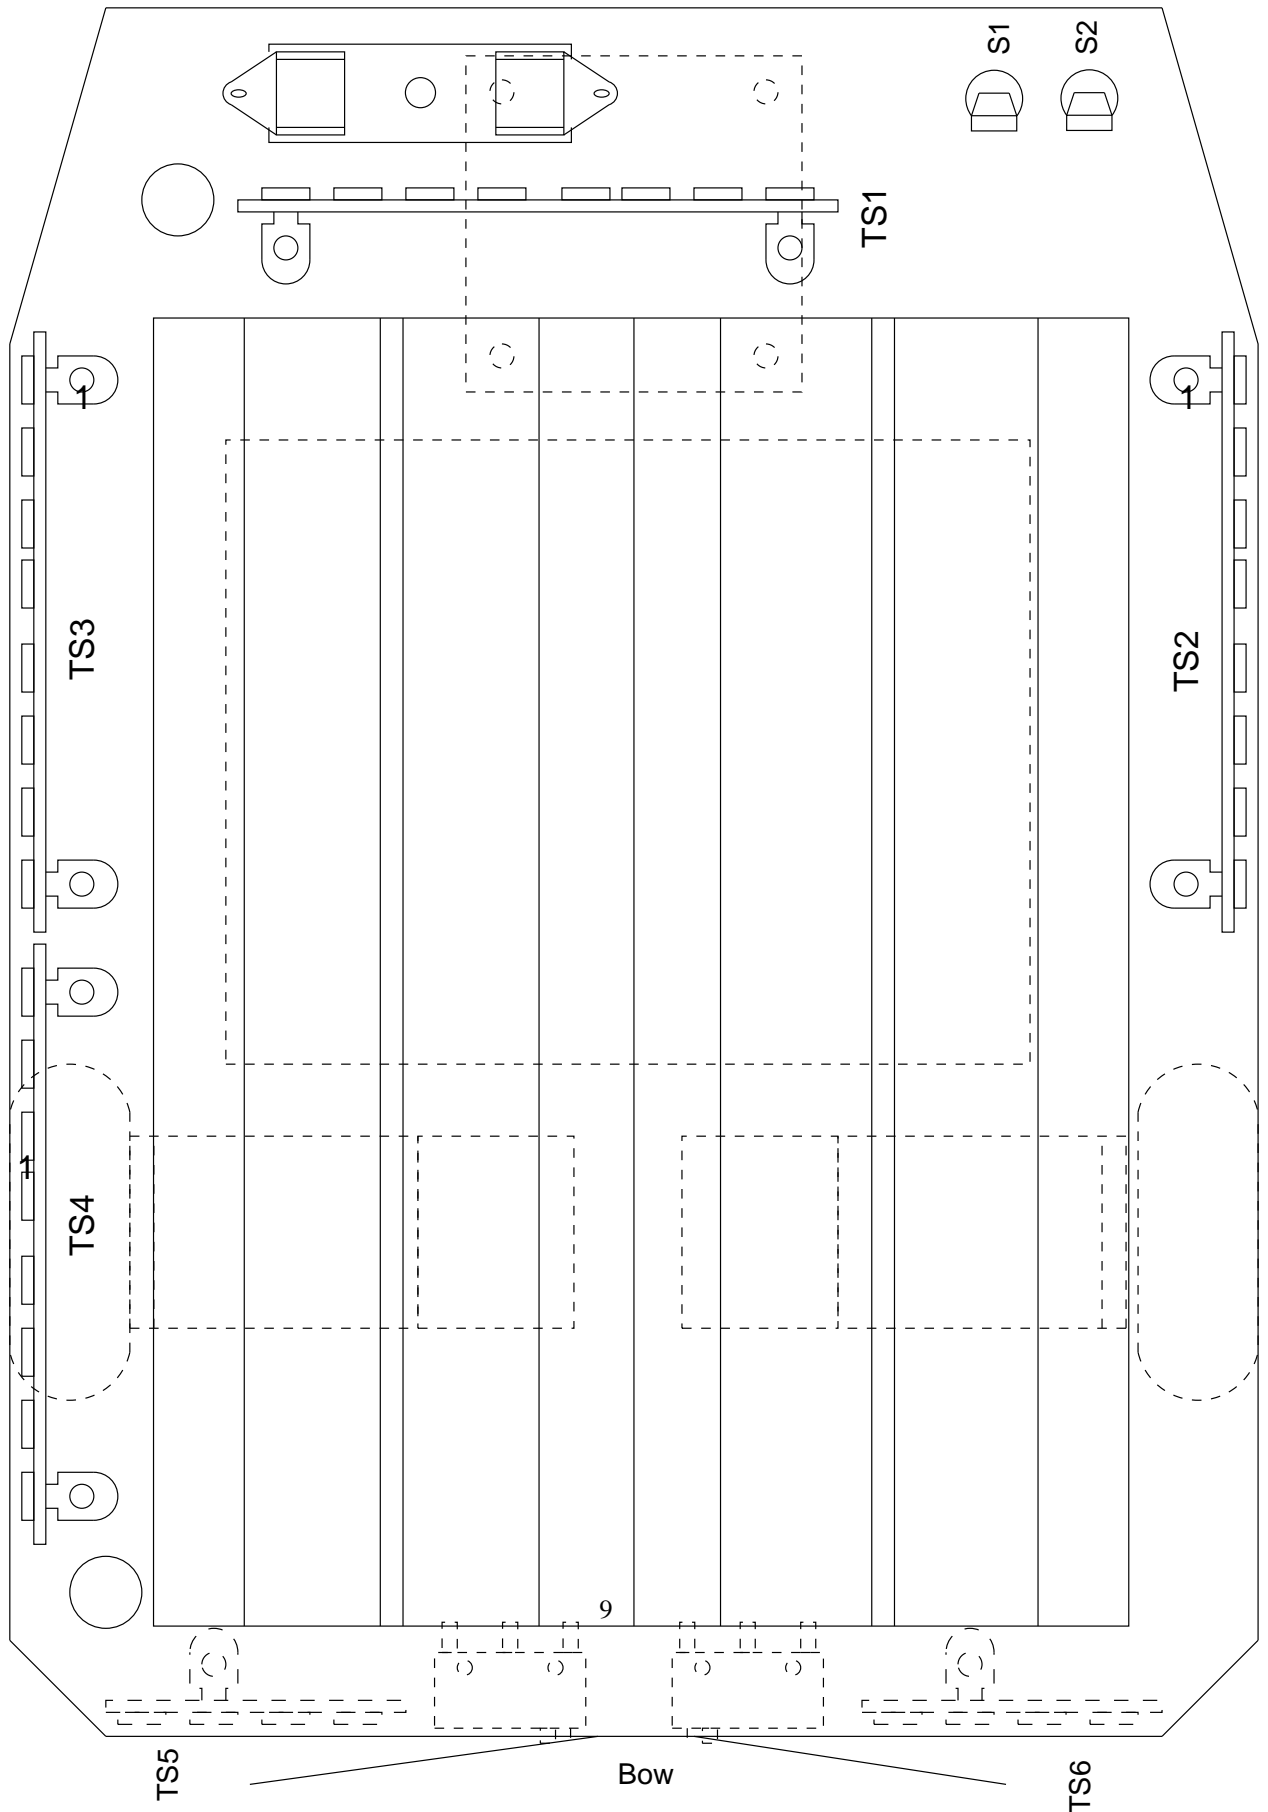

Figure 5: Mechbot Baseplate Template, Full Scale
These assembly steps do not have to be in sequence. Do whichever steps you have the parts and tools to do. A template of the baseplate layout is shown in figure 5 on page 9. You can cut this out and use it as a guide to position parts and drill holes. **The template drawing is approximate. Do not rely on the accuracy of the template drawing. Check your parts fit before drilling any holes.**
- Plan where the wires are going to run. (Make a copy of figure 5 and mark it up to guide where the wires will run.) They should be arranged so that they can be grouped into cables, and not run the shortest possible path.